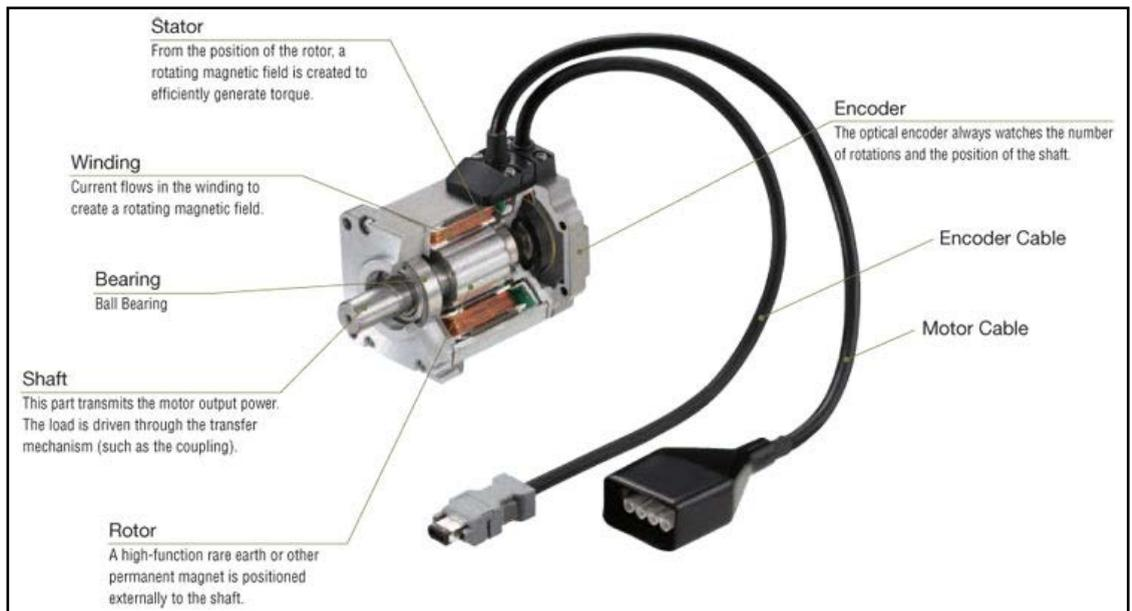

Figure 5 Servo motor construction.
The typical servo motor is a brushless PM motor with magnets located on the moving rotor. The magnets can be on the rotor hub outside diameter (OD) or buried inside the magnetic rotor hub structure (see Figure 5). The number of magnets in an industrial servo motor can vary from 6 poles to 120-plus poles.